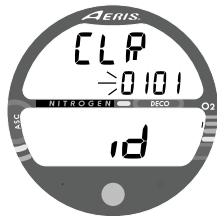

Fig. 62 - RESET (Clear)
- Depress/hold the button while the second Log screen of the most recent dive is being displayed to access the Reset screen. The graphics **CLR** and **id** will appear with the Key Code 0 000, the first 2 digits flashing (Fig. 62). Release the button.